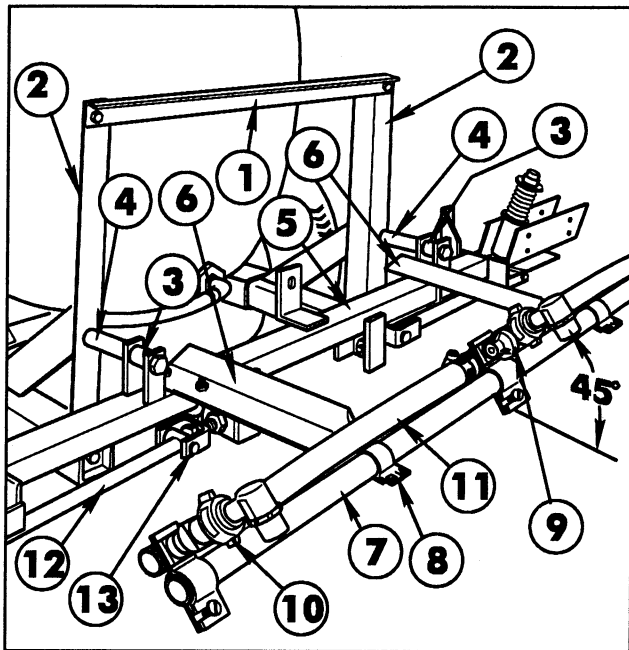
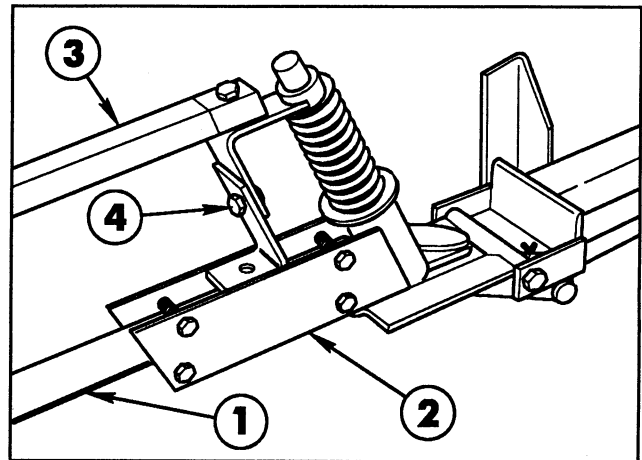

FIG. 10
FIG. 11
3. Position the Spacer Tubes between the Boom Mount uprights and the lugs on the Main Frame Tube. Use two 1/2" x 4" hex hd cap screws and lock nuts to secure the Main Frame Tube to the uprights. See FIG. 10.
5. Position the two (2) Center Boom angles on the Main Frame and secure them to the Main Frame tube with two (2) square U-bolts, four (4) flat washers and hex nuts. See FIG 10.
6. Center and attach the Center Boom Pipe to the two Center Boom Angles with two (2) clamps, 3/8" x 1" cap screws, flat washers and lock nuts.
7. Loosely attach the triple barb Nozzle Assembly in the approximate center of the Center Boom Pipe. For the most uniform spray coverage, position all Nozzle Assemblies at a 45° angle as shown in FIG. 10. Tighten clamp screw to secure the Nozzle Body to the Boom Pipe.
9. Attach the two Strut Assemblies to the two Adjustable clevis' found on each side of the Main Frame tube with two (2) 1/2" x 2" clevis pins and two (2) 1/8" x 1" cotter pins.
10. Insert the plugged end of an Extension Boom Pipe into the Pivot Assembly and secure with four (4) 1/4" x 1-1/4" cap screws and lock nuts. See FIG. 11. Repeat on the opposite side to assemble the other Extension Boom.
11. Attach the Boom Support Assembly to the Pivot Assembly, using a 5/16" x 1-1/2" cap screw and lock nut. See FIG. 11.
14. Adjust the Booms to a level position by adjusting the jam nuts on the adjustable clevis assemblies (See FIG. 10) to the desired position, then tighten the end nuts against the Main Frame Plate.